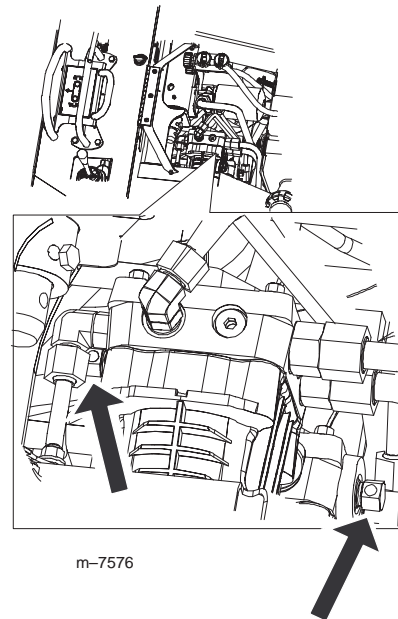

Figure 20
3. Using a wrench, turn the tow valves (Fig. 20) on the hydraulic pumps twice counter-clockwise.